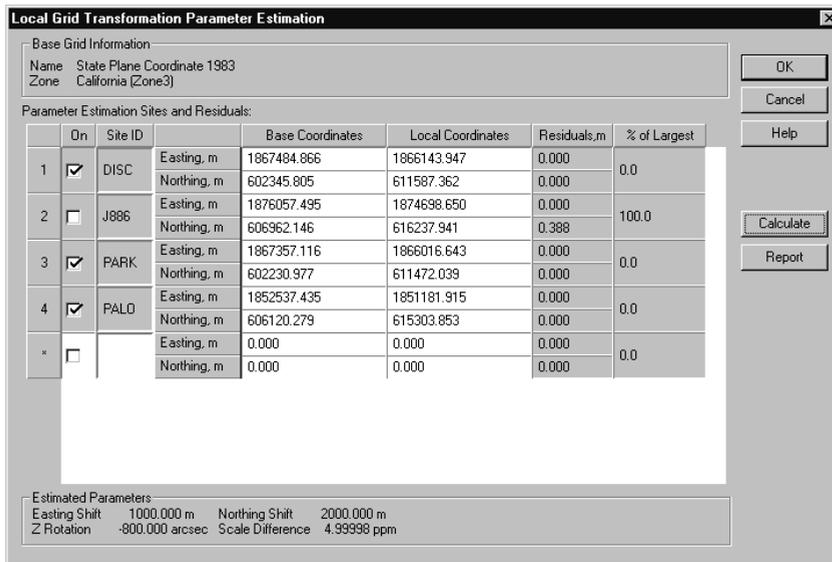

Figure 9.9. Local Grid Transformation with Estimated Parameters
7. After entering all points, click **Calculate** to calculate the transformation parameters. The **Estimated Parameters** box at the bottom of the dialog box lists the computed transformation parameters (Figure 9.9).